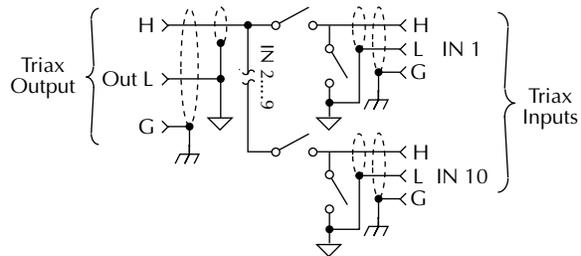

Figure 2-3
Figure 2-3 shows a simplified schematic diagram of the Model 6522. As with the Model 6521, the Model 6522 scanner card has 10 input channels and a single output. Note that each channel utilizes single-pole switching with only the HI signal path switched. Input connections include H (HI), L (LO), and G (chassis ground), while output connections include H, L, and G, which is connected to chassis ground.